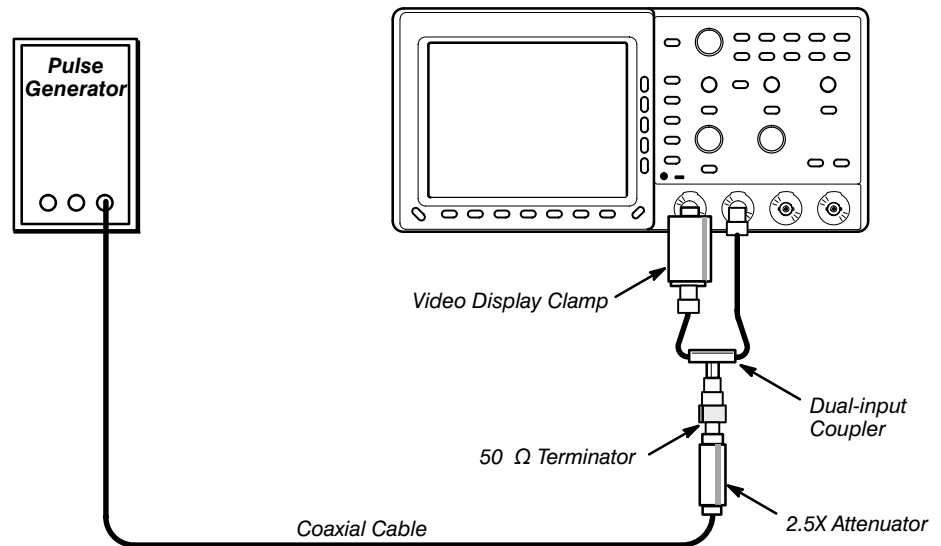

Figure 6: Back Porch Test Setup
2. Connect the output of the pulse generator to the test oscilloscope as shown in Figure 6.